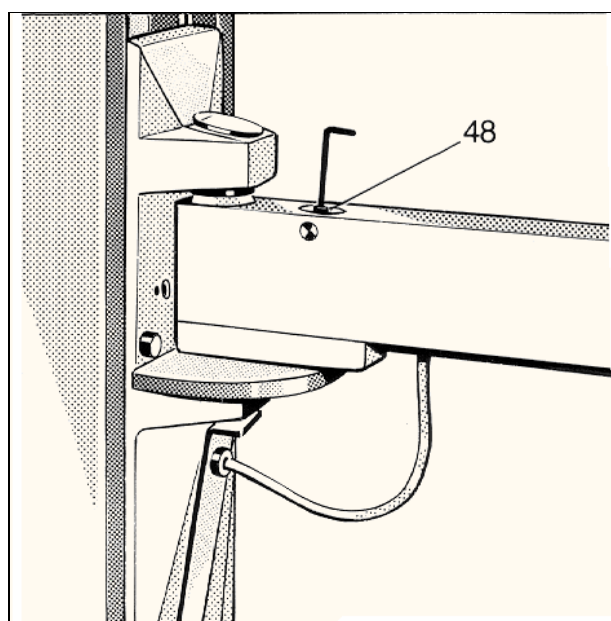

Fig. 33
* Check detent function of tube support arm at the control handle by tilting X-ray tube. The force required to overcome the detent should not exceed 12 N. If necessary adjust spring pressure by turning locked screw (Fig. 33/item 48). Slightly lubricate running surface of detent ball.